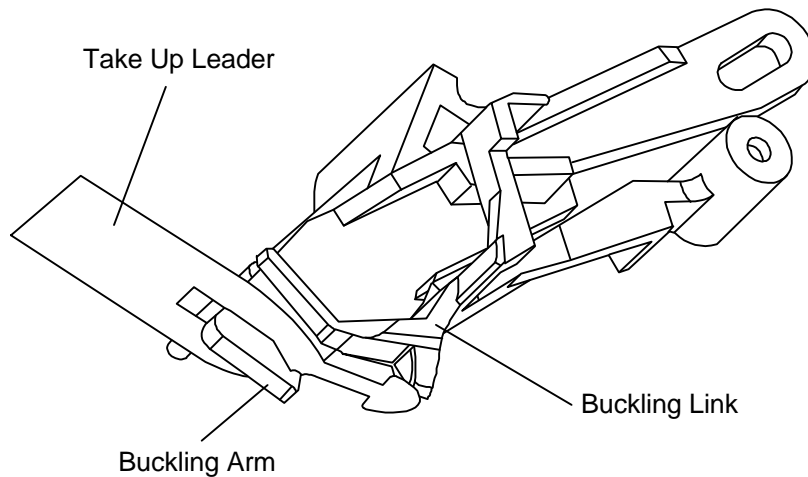
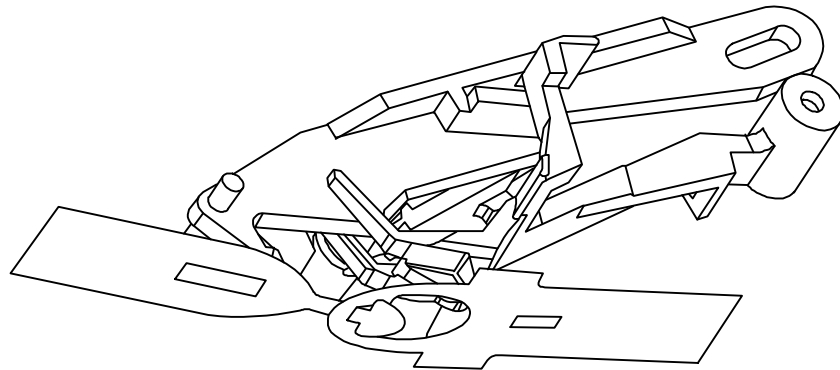

Figure 14 Correct Position of Take Up Leader / Buckling Link
Figure 17 Load Sequence Begins
20. See Figure 14 through Figure 17 for views of the proper take up leader load sequence.